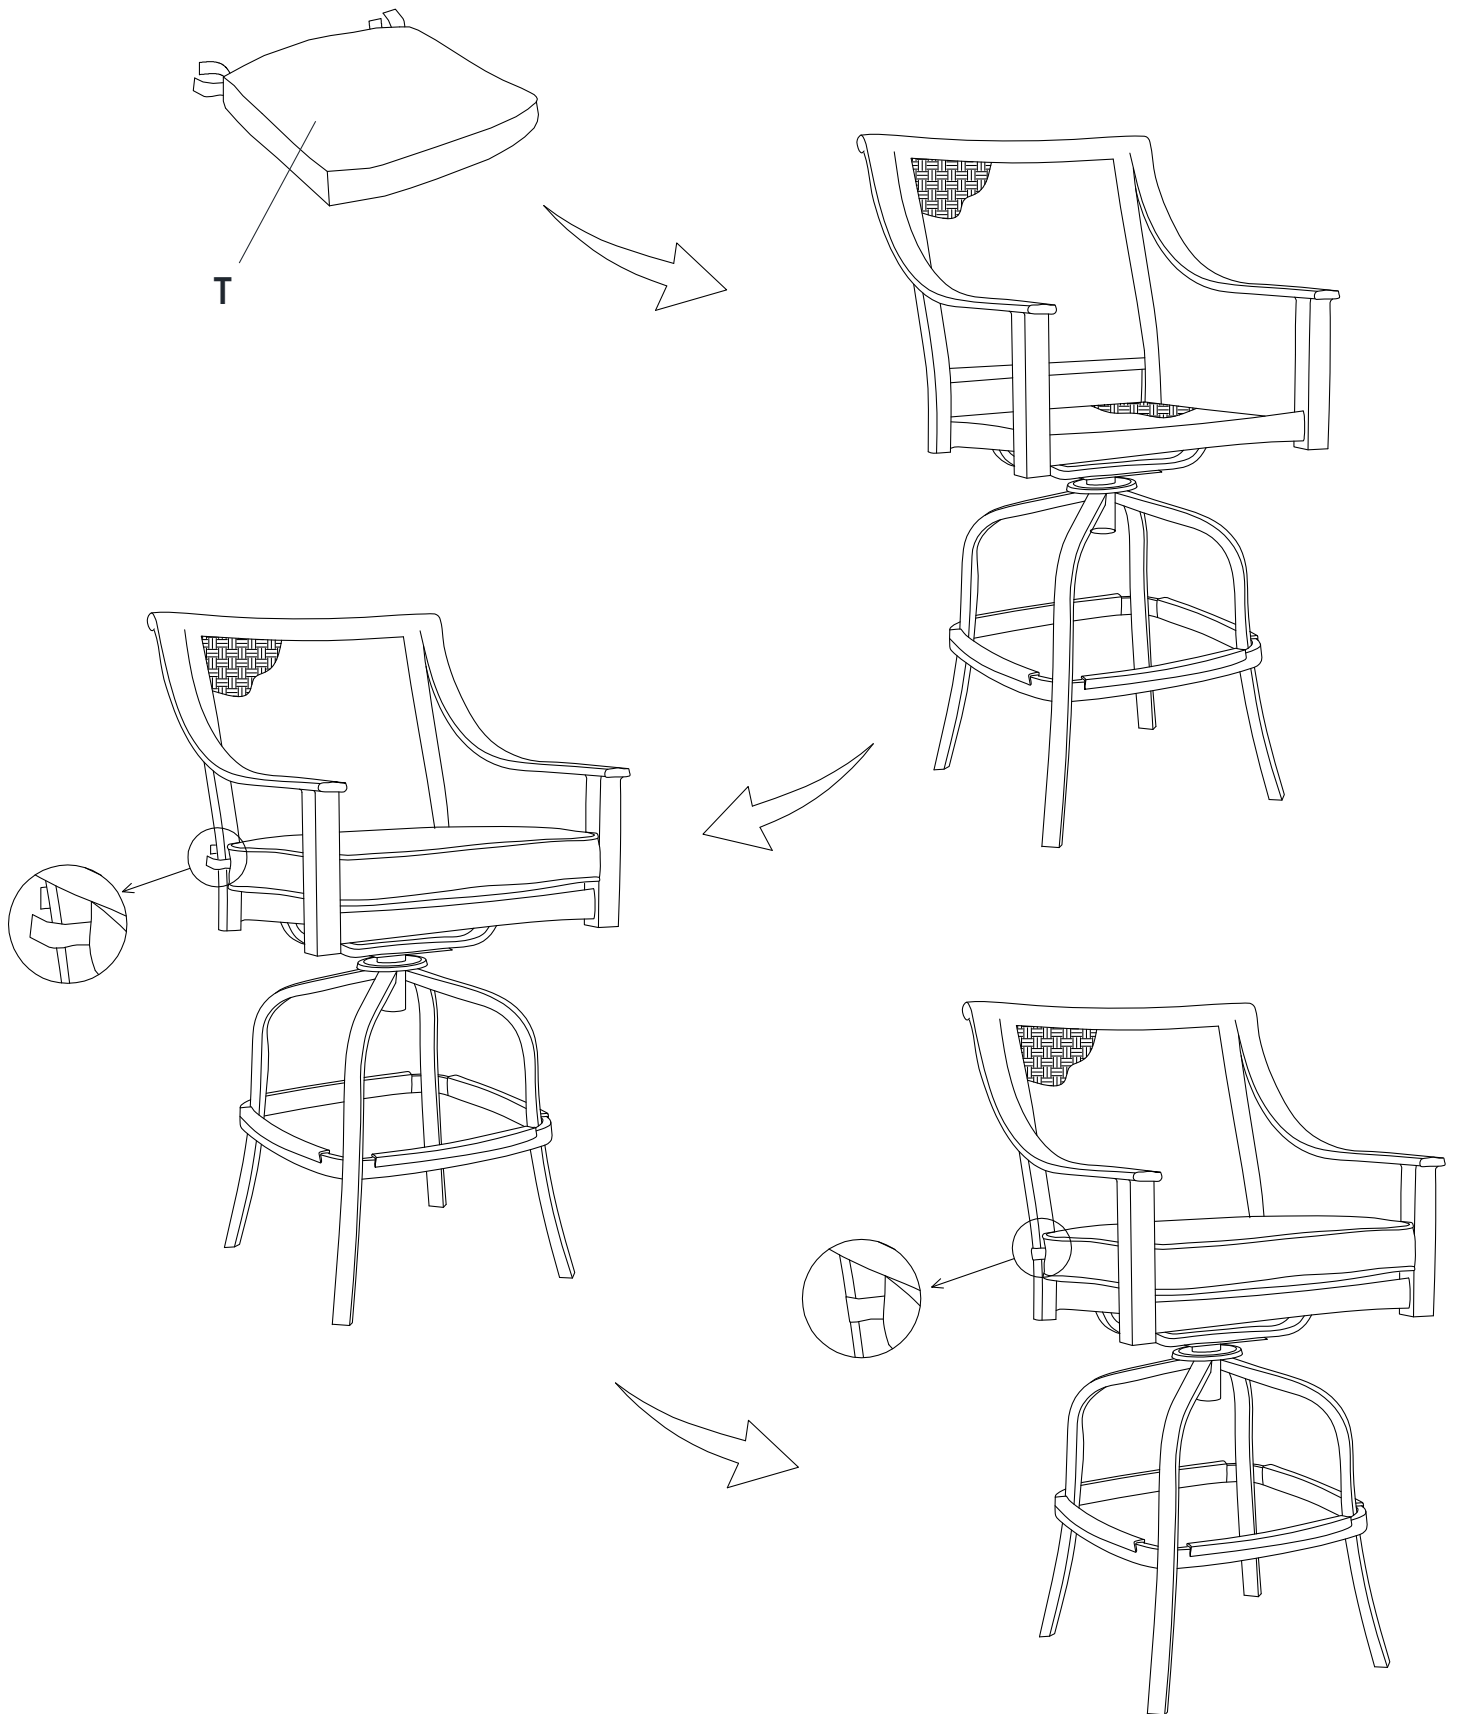

Figure 27
Place the seat cushions (T) on the chairs. (Figure 27)